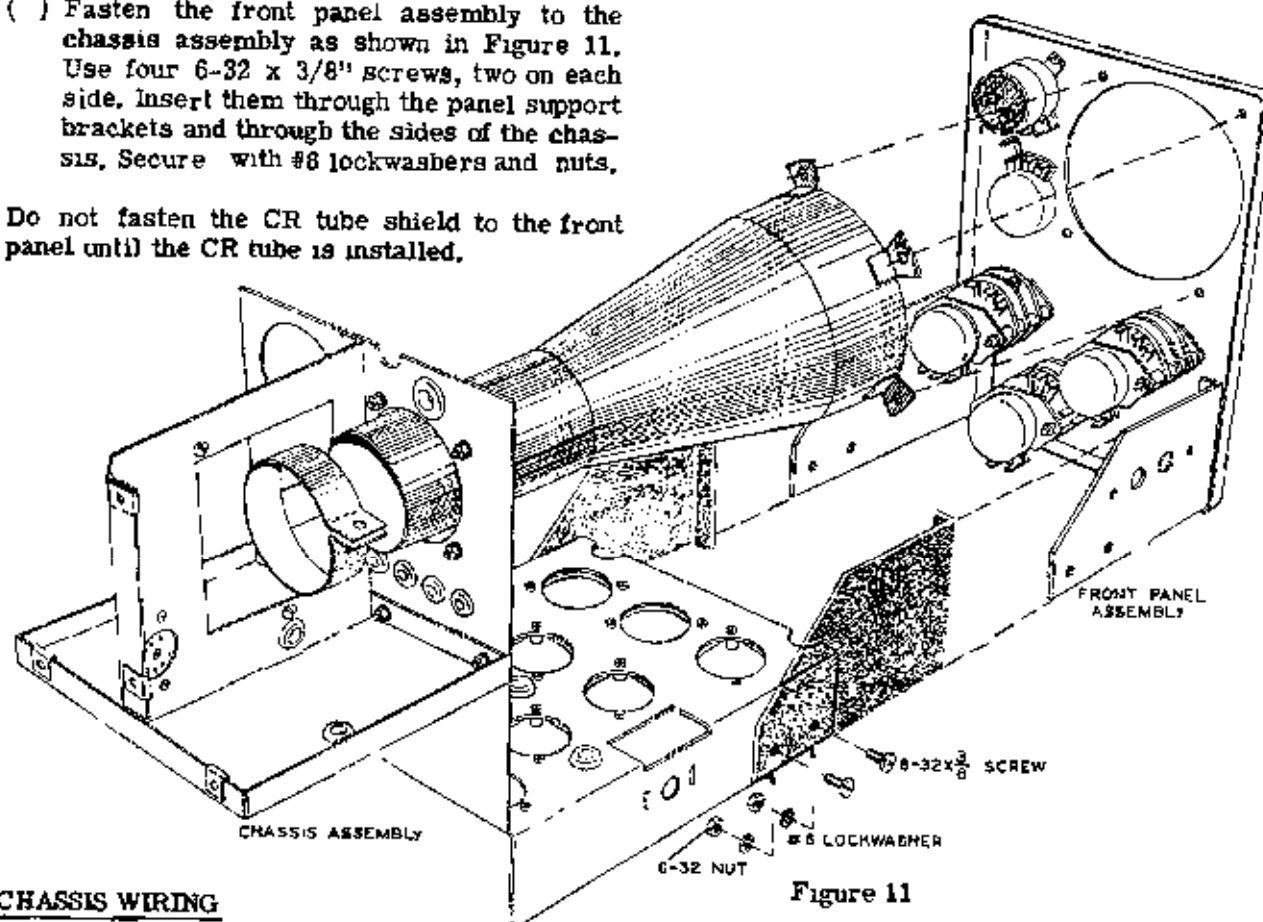

Figure 11
Refer to Figure 11 for the next step.
- ( ) Fasten the front panel assembly to the chassis assembly as shown in Figure 11. Use four 6-32 x 3/8" screws, two on each side. Insert them through the panel support brackets and through the sides of the chassis. Secure with #8 lockwashers and nuts.